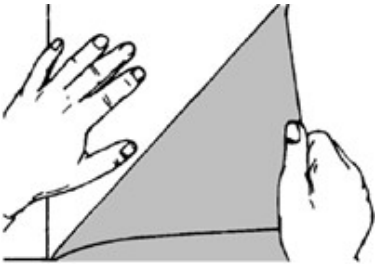

Figure 15. Removing the Liner
3. Peel the entire liner off the EAGF in a continuous motion at an 180 degree angle. For scored liners, bend the EAGF at the seam and remove both pieces of the liner. Always remove the liner from the film layer (rather than the film layer from the liner) to avoid stretching the EAGF. See Figure 15.